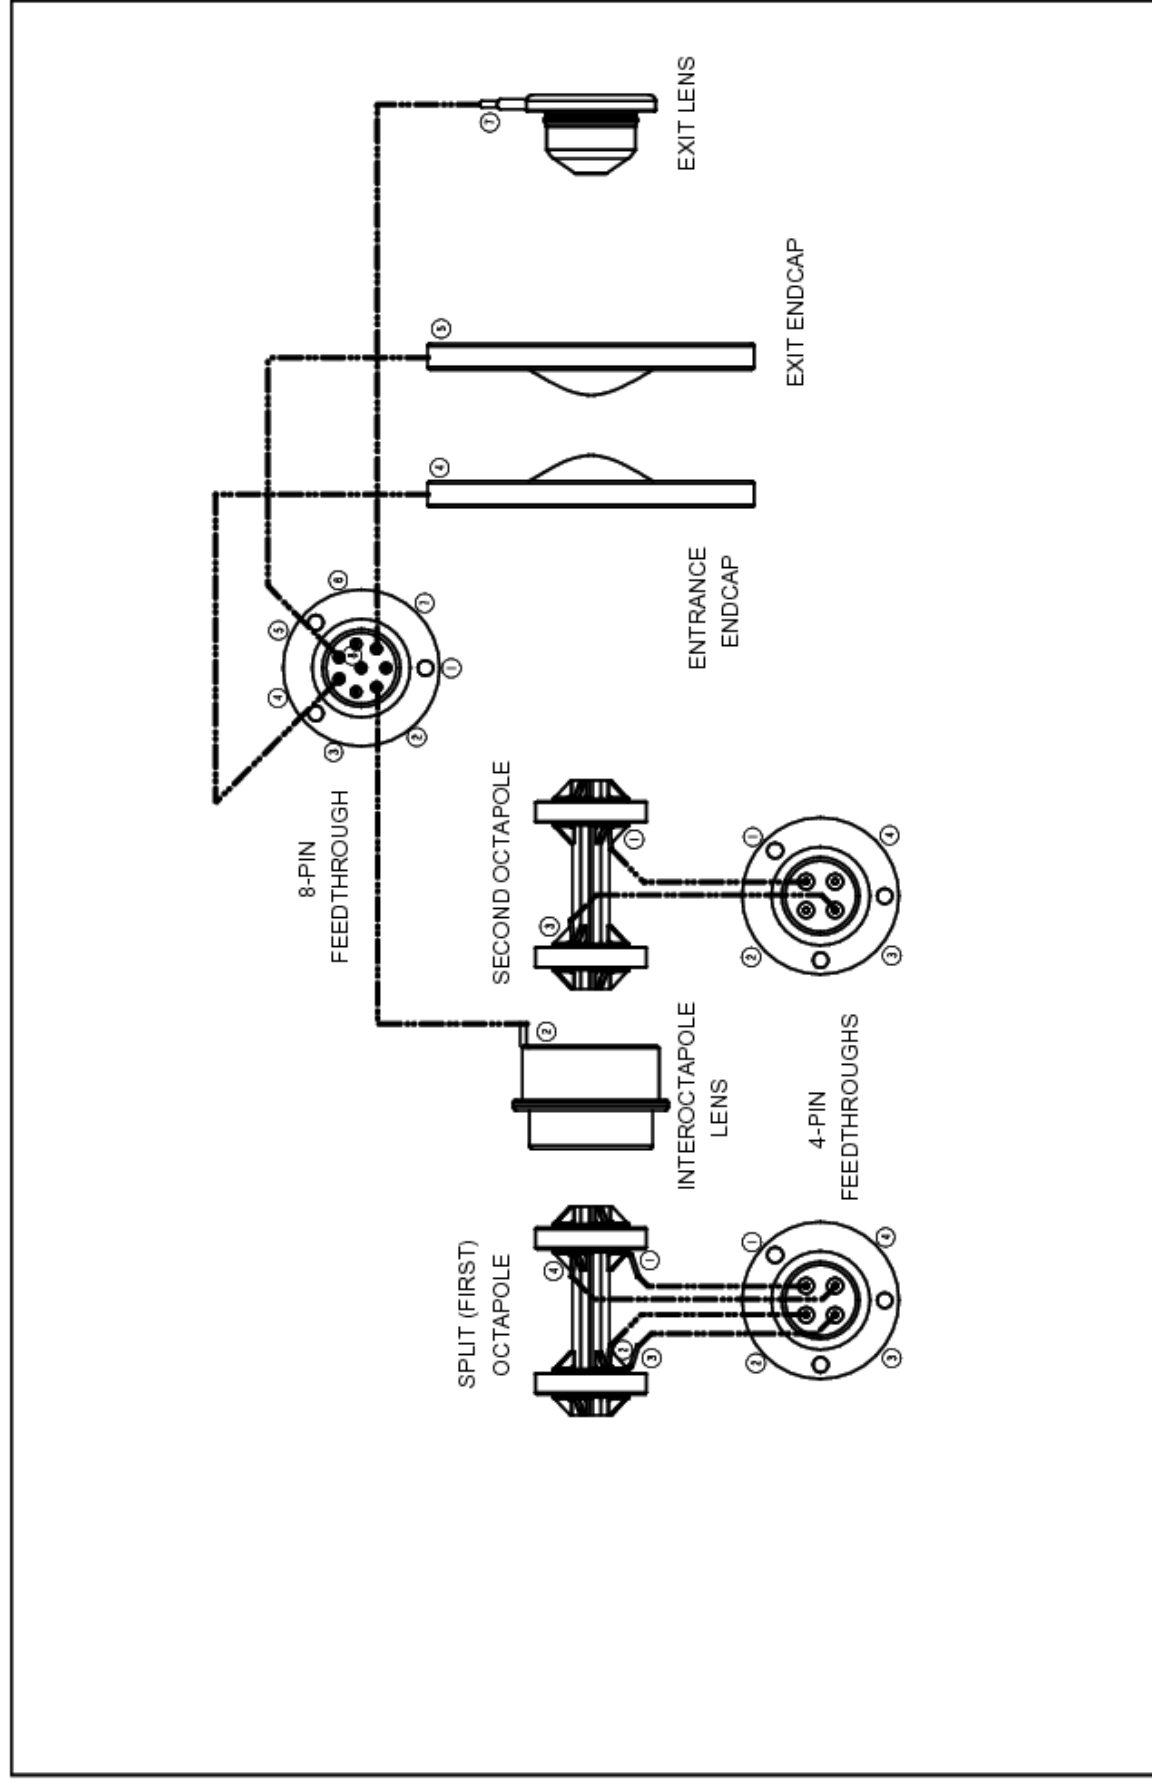

Figure 5-8. Wiring diagram for the ion optics and mass analyzer
6. Reconnect the four electrical leads from the 4-pin feedthrough to the split (first) octapole according to the wiring diagram shown in Figure 5-8.
7. Reconnect the two electrical leads from the other 4-pin feedthrough to the second octapole according to the wiring diagram shown in Figure 5-8.
8. Reconnect the electrical lead from pin 2 of the 8-pin feedthrough to the interoctapole lens according to the wiring diagram shown in Figure 5-8.
9. Reconnect the electrical lead from pin 4 of the 8-pin feedthrough to the entrance endcap electrode according to the wiring diagram shown in Figure 5-8, by inserting the pin on the end of the lead into the socket in the electrode.
10. Reconnect the electrical lead from pin 5 of the 8-pin feedthrough to the exit endcap electrode according to the wiring diagram shown in Figure 5-8, by inserting the pin on the end of the lead into the socket in the electrode.
11. Reconnect the electrical lead from pin 7 of the 8-pin feedthrough to the exit lens according to the wiring diagram shown in Figure 5-8. Ensure that the exit lens lead pin does not contact the nut.